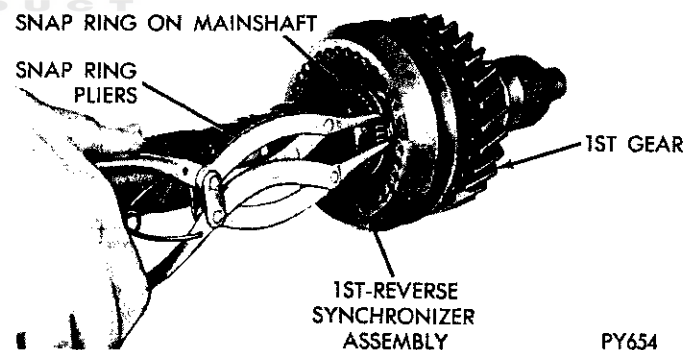

Fig. 21—Snap Ring—1st-Reverse Synchronizer Clutch Gear—Removal or Installation
- (8) Remove from mainshaft the snap ring which retains the 1st-Reverse synchronizer clutch gear (Fig. 21).
(16) Install clutch gear snap ring on mainshaft (Fig. 21).